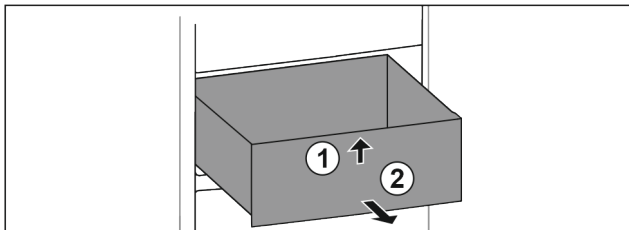

Fig. 99
- ▶ Lift up drawer at the front. Fig. 99 (1)
- ▶ Remove drawer to the front. Fig. 99 (2)